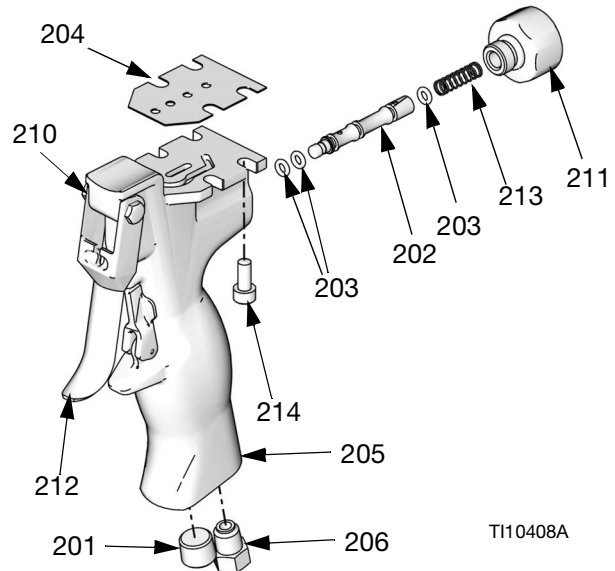

FIG. 9
1. Liberally lubricate o-rings (203) and reassemble. Install spool (202) and spring (213). Torque plug (211) to 125-135 in-lb (14-15 N•m). See FIG. 9.
2. Align the gasket (204) and dispense valve on the top of the handle (205). Torque the four screws (214) evenly to 15-20 in-lb (1.7-2.2 N•m).